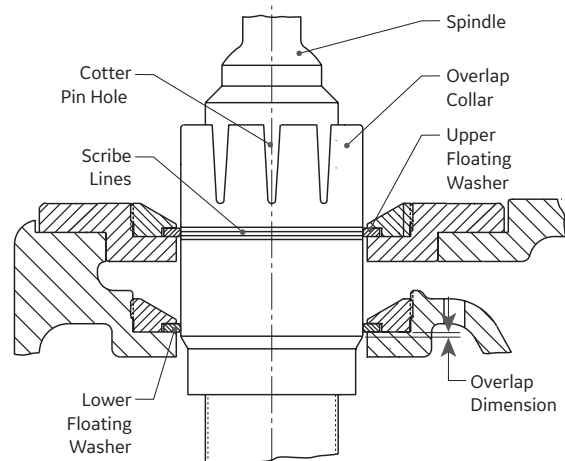

Figure 32: Collar and Spindle Assembly
23. If the overlap collar has been removed from the spindle, lubricate the collar threads and place over the spindle with the notches in the collar up (i.e., away from the coverplate). Note that the overlap collar has four circumferential scribe lines. The lower scribe line is the one farthest away from the notches. (See Figure 32.) Thread the overlap collar onto the spindle by turning in a clockwise direction, until the lower scribe line is even with the visible floating washer. Align the nearest overlap collar notch with the drilled hole in the spindle by moving the overlap collar down.